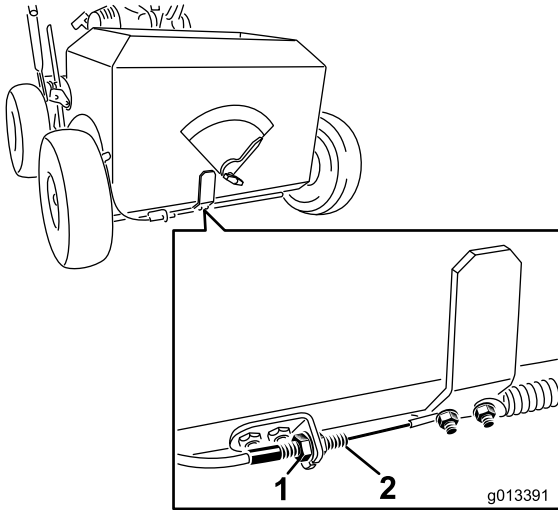

Figure 26
4. Loosen the nuts on the seed-gate control cable (see Figure 26).